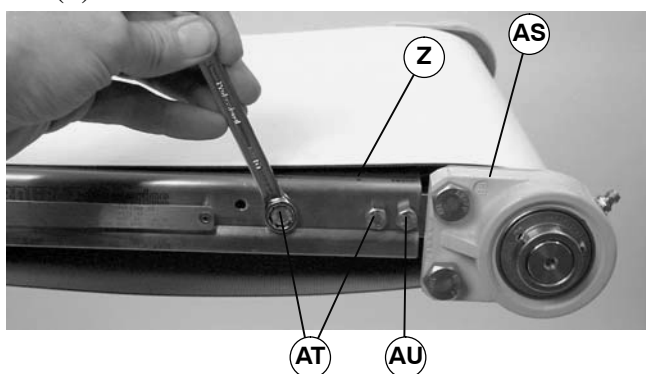
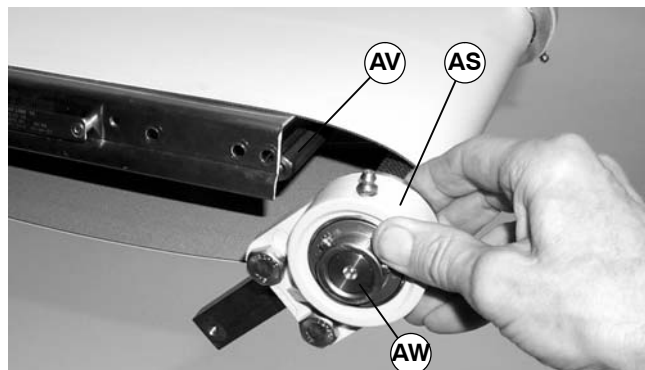
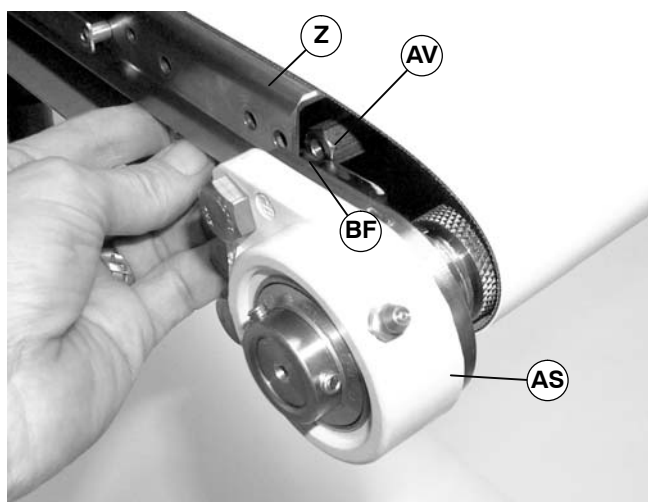

Figure 22
Figure 23
Figure 31
8. Remove three hex head screws (AT and AU of Figure 22) from bearing and head plate assembly (AS), cross support post (AV of Figure 23) and conveyor (Z).
9. Rotate bearing and head plate assembly (AS of Figure 23) down and then off of cross support post (AV) and drive spindle (AW).
4. Rotate bearing and head plate assembly (AS of Figure 31) up between inside of conveyor (Z) and cross support post (AV). Make sure cross support post engages slot (BF) in head plate.
5. Install three hex head screws (AT and AU of Figure 22) to secure bearing and head plate assembly (AS of Figure 31) to cross support post (AV) and conveyor (Z).